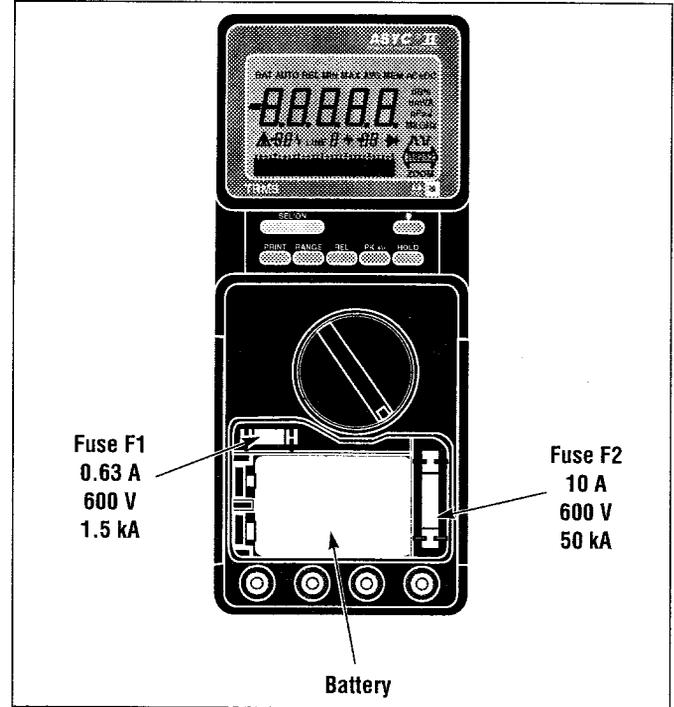

Fig. 15 Locating Battery and Fuses
4. Refer to Figure 15 to locate the fuses and the battery. Replace the blown fuse or battery.